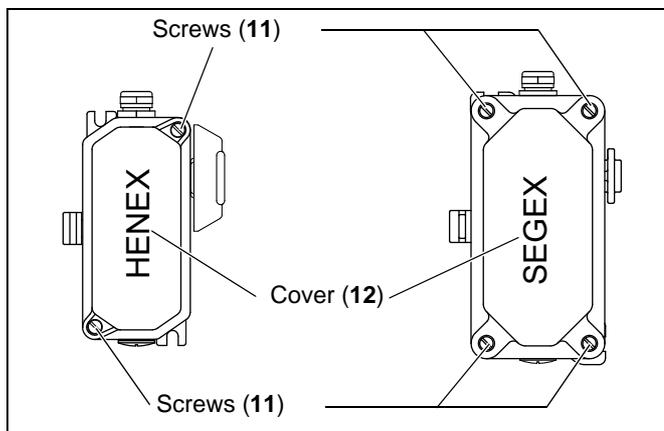

Fig. 5-10: Removing the cover
2. Open the Cover (12) of the pull-rope emergency stop switch by loosening the two or four Screws (11) (see fig. 5-10).
7. Check the gasket of the Cover (12) for damage.
8. Close the Cover (12) of the pull-rope emergency stop switch.
9. Secure the Cover (12) using the Screws (11) (see fig. 5-10).
4. Open the Cover (12) of the belt misalignment switch by loosening the Screws (11) (see fig. 5-10).
5. Loosen the Screwed cable gland (17).
6. Loosen all electrical connections and pull the cables out of the Screwed cable gland (17).
7. Unscrew both screws that fasten the pull-rope emergency stop switch to the conveyor system through the slotted holes and remove the device (see fig. 5-10).